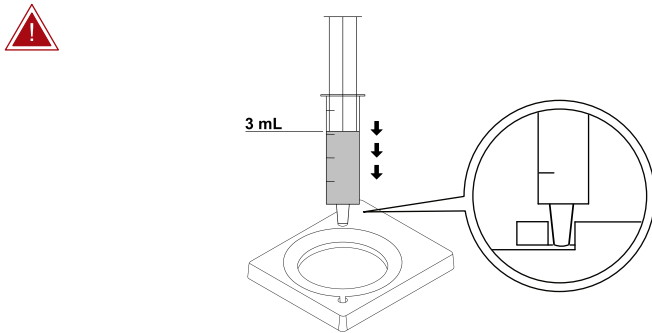

Figure 2. Fill the bottom chamber with 3 mL semen sample.
5. Hold the syringe in a vertical position, carefully insert the tip into the inlet and apply gentle pressure to achieve a seal. Be careful to avoid the formation of bubbles under the membrane (Figure 2).